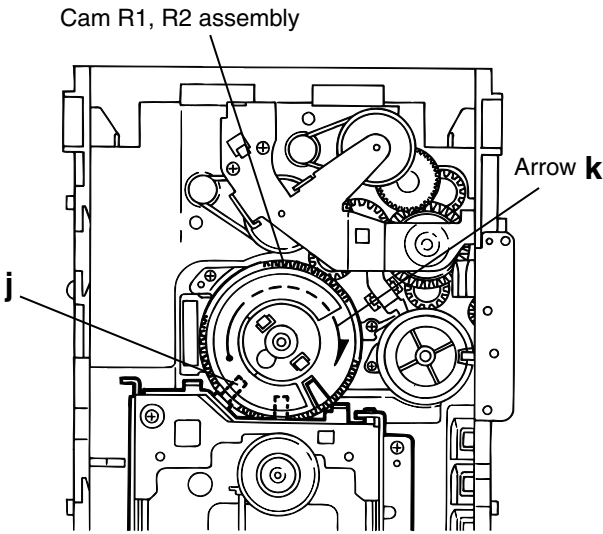

Fig.11
Removing the CD traverse mechanism (See Fig.11 and 12)
1. For dismounting only the CD traverse mechanism without removing the CD loading mechanism assembly, align the shaft "j" of the CD loading mechanism assembly to the position shown Fig.11 while turning the cam R1 and R2 assembly in the arrow direction "k".